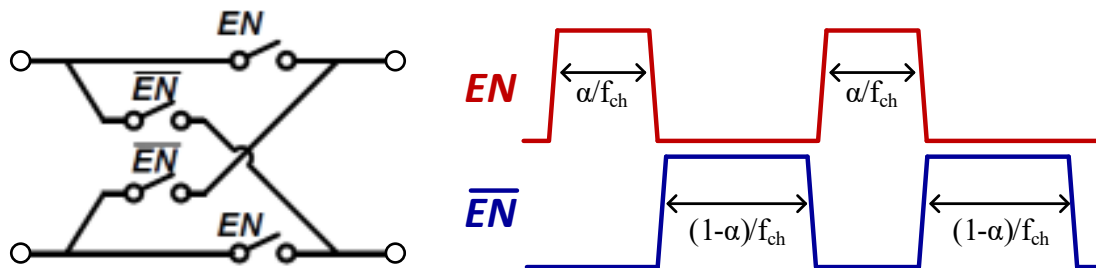

Fig 3. Chopping switches and waveforms
- b. Sweep the duty cycle α of your chopping signals from 20% to 50% (Fig. 3). How does the duty cycle affect the residual offset?